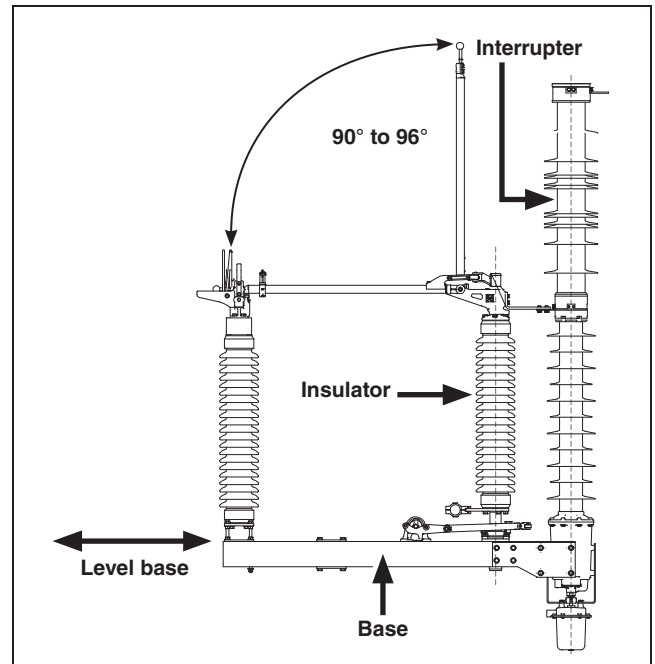

Figure 8. Check the angle of the disconnect blades.
STEP 3. Check that the blades open to between 90° and 96°. See Figure 8 on page 13.